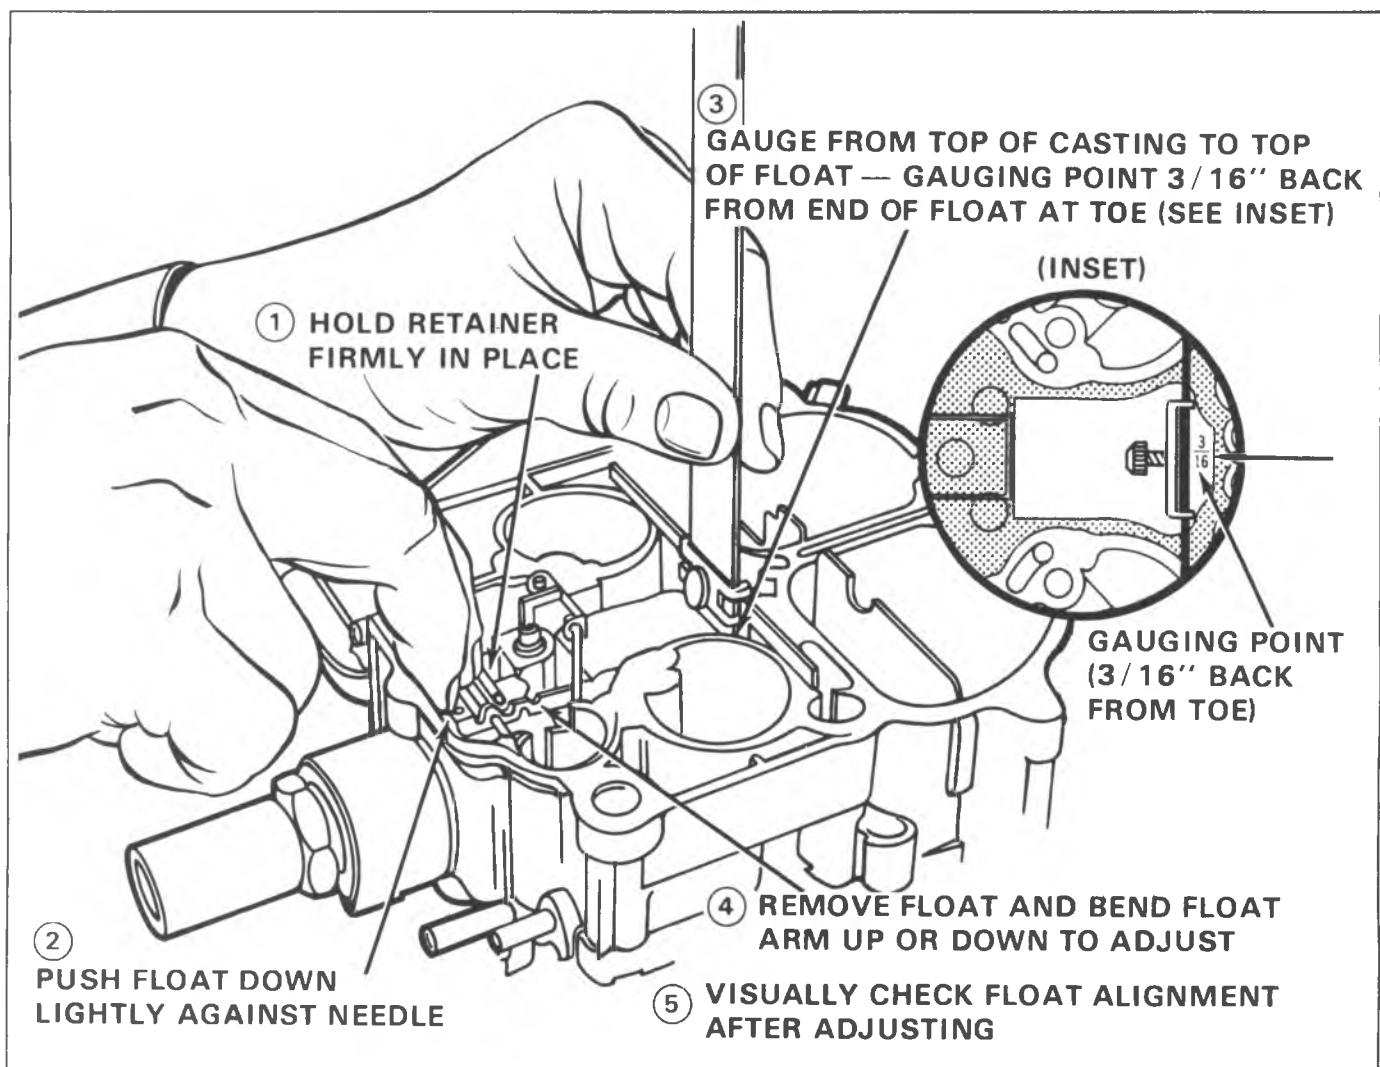

Fig. 6C4-48--Float Level Adjustment
10. Install power piston spring in power piston well. If main metering rods were removed from hanger, reinstall making sure tension spring is connected to top of each rod (Fig. 6C4-32). Install power piston assembly in well (aligning pin on piston with slot in well) with metering rod properly positioned in metering jets. Press down firmly on plastic power piston retainer to make sure the retainer is seated in recess in bowl and the top is flush with the top of the bowl casting. If necessary, using a drift punch and a small hammer, tap retainer lightly in place.